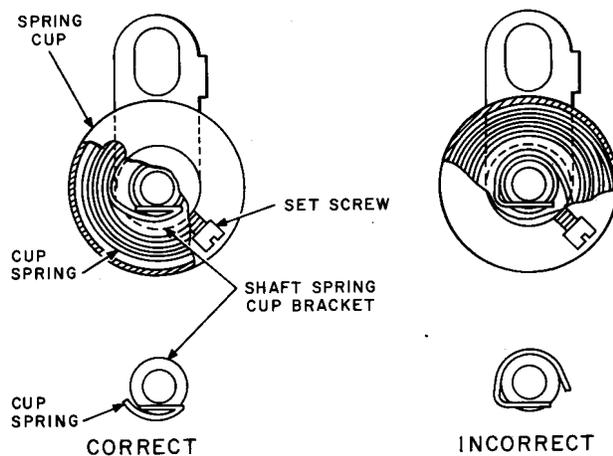

Fig. 23—Correct and Incorrect Methods of Attaching Cup Spring to the Shaft Spring Cup Bracket
(2) Slip the new clamp over the shaft, and then tighten the pin in position as described in 3.34. After tightening the clamp screw, observe that the clamp strikes the shaft bearing squarely. Where it is found that the pin clamp strikes the bearing on one side instead of squarely, reverse the clamp so that the surface formerly adjacent to the shaft spring bracket is adjacent to the bearing. If the clamp still fails to strike squarely, it will be necessary to replace it with one that does strike squarely. After the normal pin and clamp are properly located, place the shaft spring cup bracket and spring cup over the shaft and lower them into position with the normal pin stop between the normal post and the normal pin. Place the spring cup assembly in the shaft spring cup bracket as shown in Fig. 23, taking care that the spring is properly engaged in the slot of the shaft spring cup bracket. Rotate the spring cup in a clockwise direction until the proper tension is obtained on the shaft, and tighten the spring cup setscrew securely. On switches that are equipped with shafts which are spotted to receive the setscrew in the cup assembly, take care that the setscrew engages one of the spots countersunk in the shaft, so the head of the setscrew will not interfere with the operation of the normal post springs.